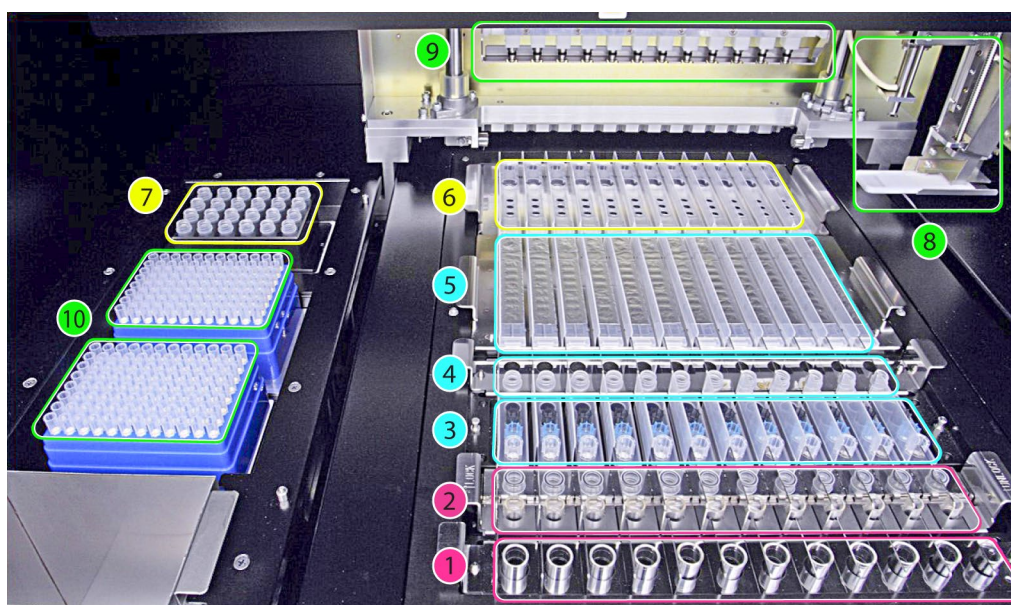

Figure 1: The «**ELiTe InGenius**» loading area
An overview of the «**ELiTe InGenius**» instrument is shown in Figure 1.
Figure 1 shows: Primary tube rack position (1), Extraction tube and cap rack position (2), Tip rack position (3), Elution tube rack position (Elution tube) (4), Extraction cartridge rack position (5) and PCR cartridge rack position (6), PCR and Internal Control reagent block (inventory manager) position (7), sample and reagent dispensing (8, 9), the waste box (left bottom) and tips positions (10).
6. To confirm that sufficient reagents for the number of tests selected are placed in the inventory manager position 7 (cfr. page 9, Figure 1) as indicated on the screen, press the "Next" button.
7. Place sufficient Tips racks in position 10 (cfr. page 9, Figure 1).
9. Place the PCR cassettes indicated in position 6 (cfr. page 9, Figure 1).
11. Place the Extraction cartridge cassette(s) indicated in position 5 (cfr. Page 9, Figure 1). Check visually the extraction cartridges to verify if the beads resuspend correctly; if they do not immediately resuspend, try with vigorous shaking or even with a short vortexing (see “Troubleshooting”)
13. Place the “Elution Tubes” into Elution Tube Rack, indicated in position 4 (cfr. page 9, Figure 1).